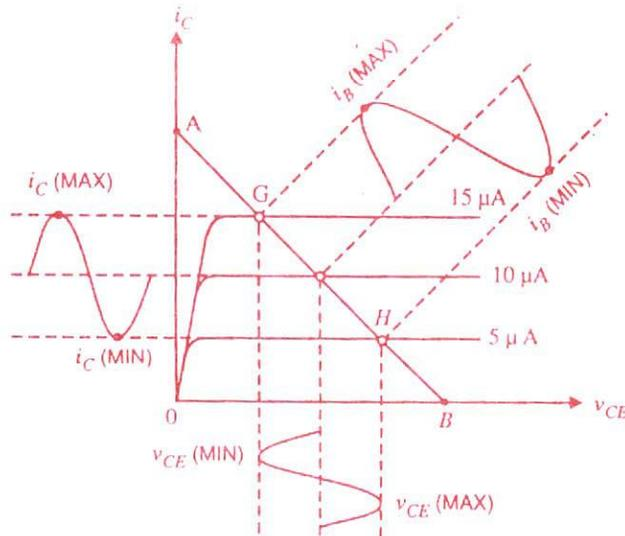

Fig. 12.5
**Graphical demonstration.** The fact of phase reversal in CE connection can be shown graphically with the help of output characteristics and load line (See Fig. 12.5).
In Fig. 12.5,  $AB$  is the load line. The base current fluctuates between, say  $\pm 5 \mu\text{A}$  with  $10 \mu\text{A}$  as the zero signal base current. From the figure, it is clear that when the base current is maximum in the positive direction,  $v_{CE}$  becomes maximum in the negative direction (*point G* in Fig. 12.5). On the other hand, when the base current is maximum in the negative direction,  $v_{CE}$  is maximum in the positive sense (*point H* in Fig. 12.5). Thus, the input and output voltages are in *phase opposition* or equivalently, the transistor is said to produce a  $180^\circ$  phase reversal of output voltage *w.r.t.* signal voltage.